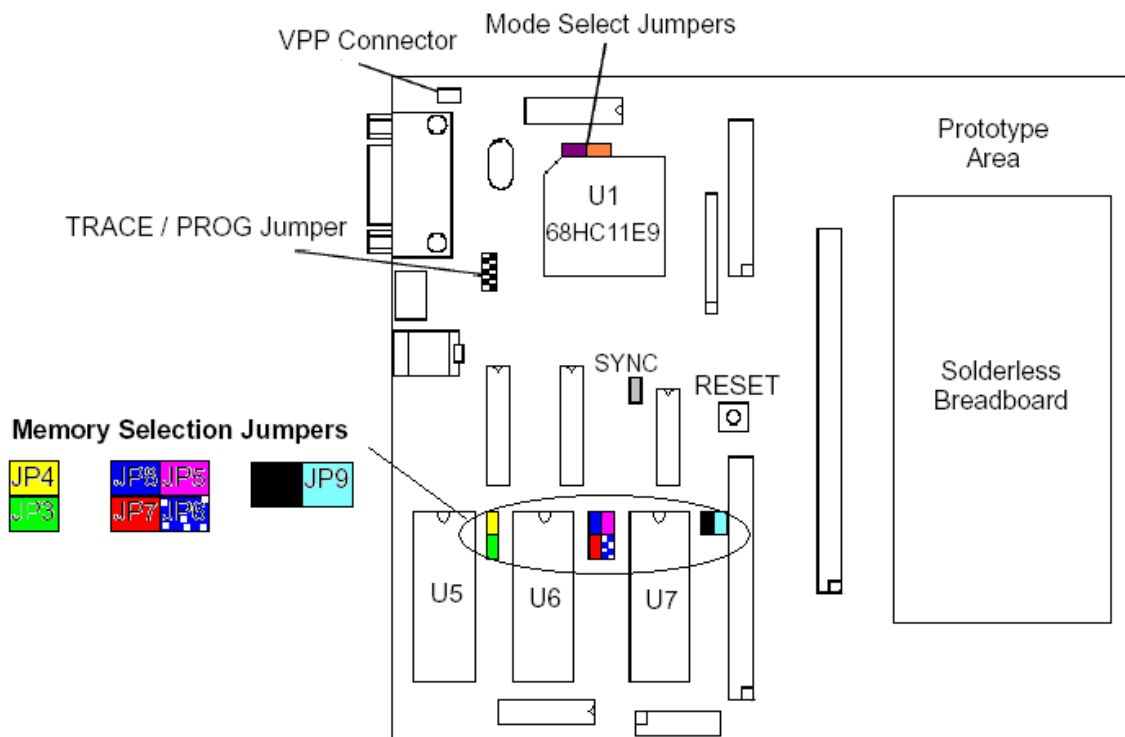

Figure 4: Shows the location of all jumpers on the evaluation board.
1. Use Figure 4 to locate the jumpers on the evaluation board.